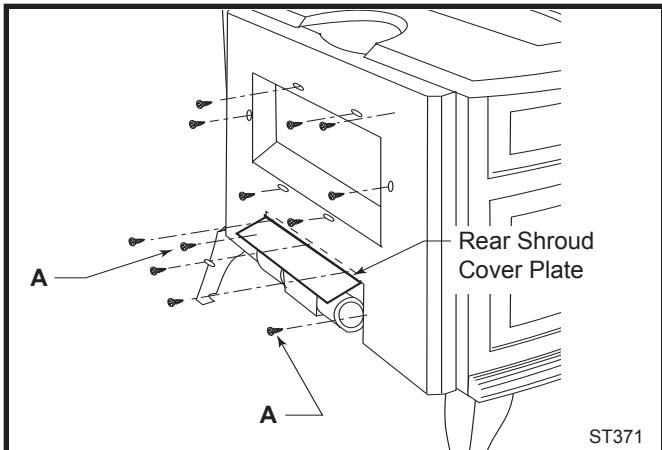

Fig. 13 Attach rear shroud cover plate to the rear shroud.
9. Reattach the rear shroud cover plate by fastening it to the rear shroud as shown in Figure 13. The top edge of the cover plate goes inside the rear shroud. Reinstall and tighten the six sheet metal screws around the draft hood opening; see 'A', Figure 13. Use two screws from the fan kit to fasten the rear shroud to the fan shield; refer to 'A', Figure 13.